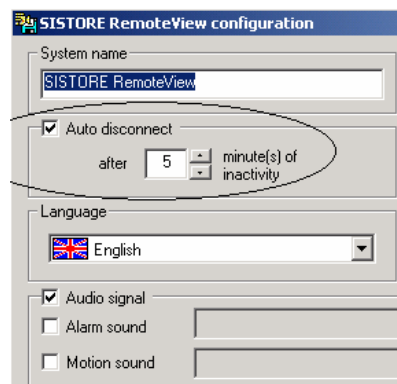

Fig 24 Auto-disconnect option in the SISTORE MX RemoteView configuration
- On each client station with video functions, disable the Auto-disconnect option in the SISTORE MX RemoteView configuration (see Fig 24 below). Default setting is auto-disconnect time enabled after 5 min. and causes the live video in MM8000 to freeze when the time expires.